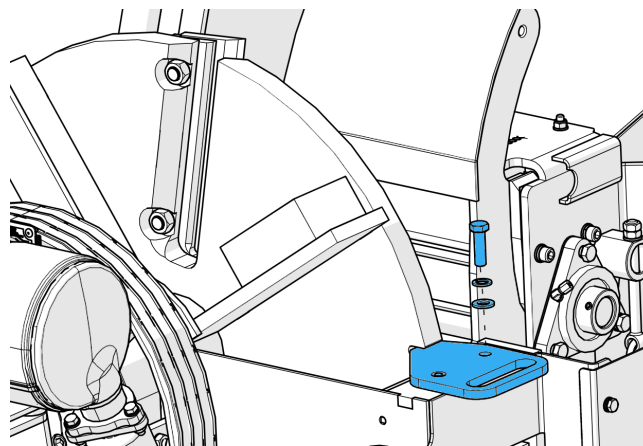

Figure 59 - Installing the flywheel locking tool
6. Turn the flywheel until it is in the locking position. (Figure 59).
7. Insert the flywheel locking tool into the groove on the flywheel. The groove becomes visible once the wheel is in the correct position (Figure 59).